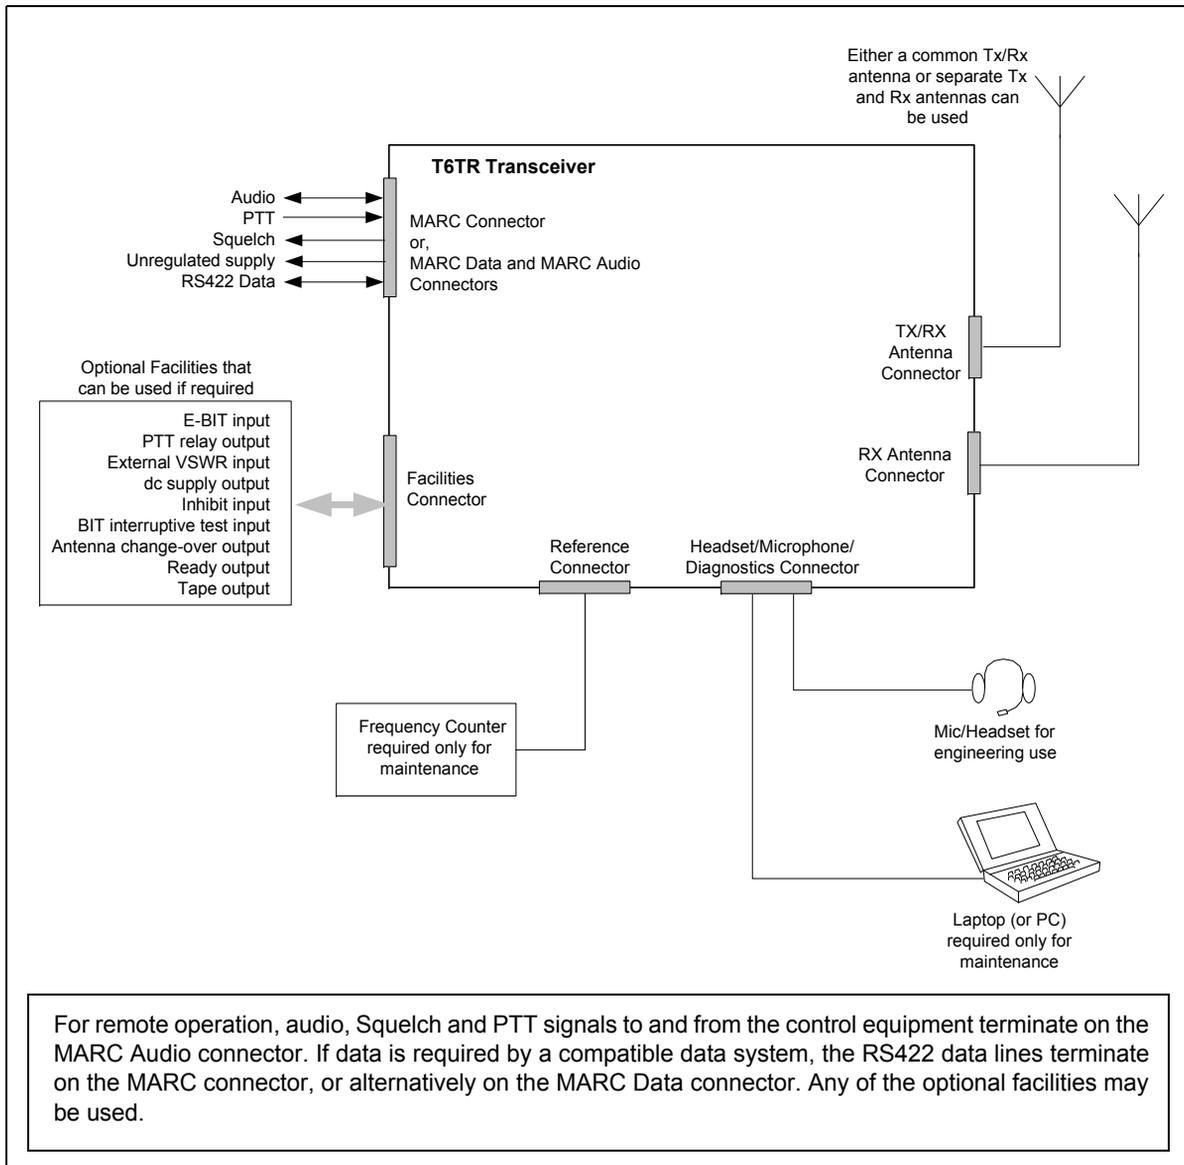

Fig 4-2 T6TR Transceiver Configured for Remote Operation
- T6TR transceiver configured for remote operation (see Fig 4-2)